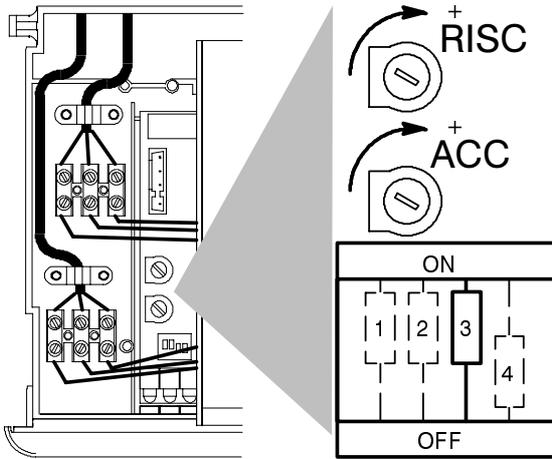

Fig. 7.7
- 14 Check the ignition gas pressure by setting dip-switch "3" (Fig. 7.7) to the OFF position. Compare the value on the gauge with the value indicated in the sections 4.5 or 4.6 (gas pressures at the burner), accordingly with the model of boiler installed.
- To adjust the ignition gas pressure, set dip-switch "3" (Fig. 7.7) to the OFF position and adjust poten-
With the boiler operating in c.h. mode, use a suitable screwdriver to turn the adjustment potentiometer marked "RISC" (Fig. 7.7).